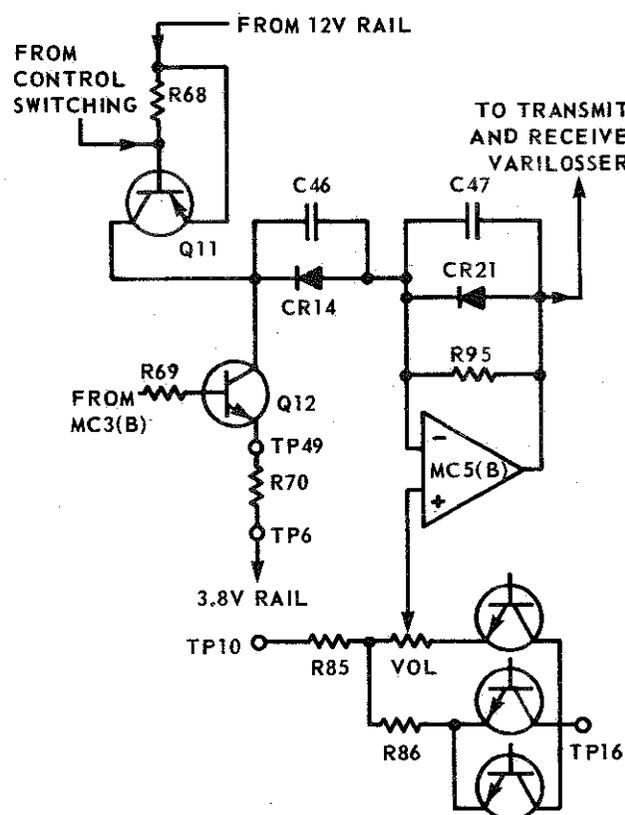

Fig. 12 - Noise Current Control Configuration
3.34 The noise current control (Fig. 12) increases the loss through the TVL in proportion to the noise signal. The resulting decreased signal level in the transmit channel is passed through the Q1 emitter to the (-) input of the transmit rectifier amplifier [MC2(A)]. Therefore, the voltage level at the (-) input of the main comparator is also proportionately reduced. Consequently, a lower line signal level at the (+) input to the main comparator MC4(A) is required to switch MC4(A) from low to high output (i.e., transmit to receive). The level of noise on the line is thereby reduced, but, since speech is louder in a noisy environment, the transmitted speech level remains the same.